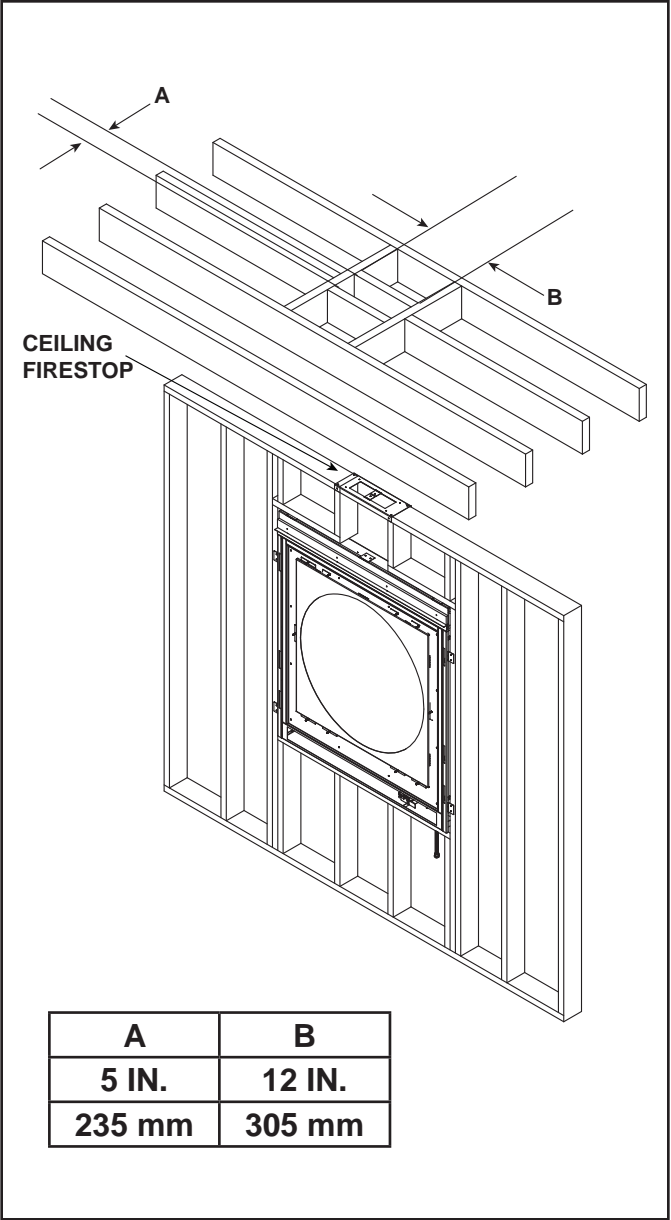

Figure 8.4 Installing DVRP-CFS Firestop
- **DVRP-CFS** - Remove a 12 inch section of the 2 x 6 top wall plate. Attach the firestop with two screws on each side. See Figure 8.4.